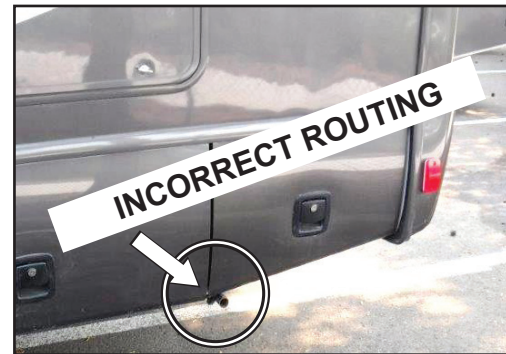

Figure 2
If the positioning is not as shown in figure 1, continue on and refer to figure 2.
- c) **Figure 2 is an example of improper routing. Inspect the positioning of the generator exhaust pipe, if it is located between the two rear compartment doors go to step D.**